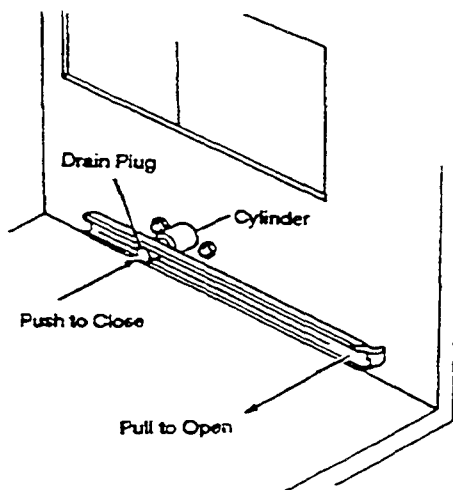

Figure 2-17. Drain Lever and Plug
5. Refer to Figure 2-17; check that the drain lever is positioned in the drain closed position and that the drain plug is inserted in the cylinder opening. When the plug is inserted (closed), the 0-ring rests against the edge of the cylinder.